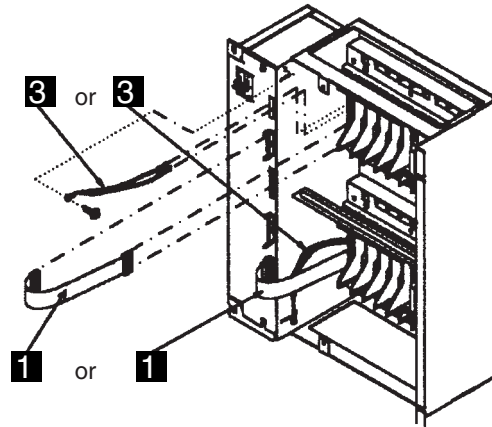
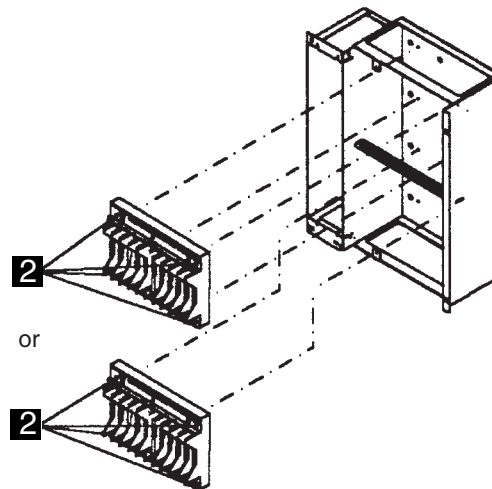

Figure 4-141. LIC Board Type 2 Enclosure Assembly
Figure 4-142. LIC Board Type 2 Assemblies
Refer to Figure 4-141 and Figure 4-142 and do the following:
2. Refer to Figure 4-142 on page 4-155. Mount the new board in place and secure it with the four screws **2**.
3. Refer to Figure 4-141 on page 4-155. Reconnect the flat power cable **1**.